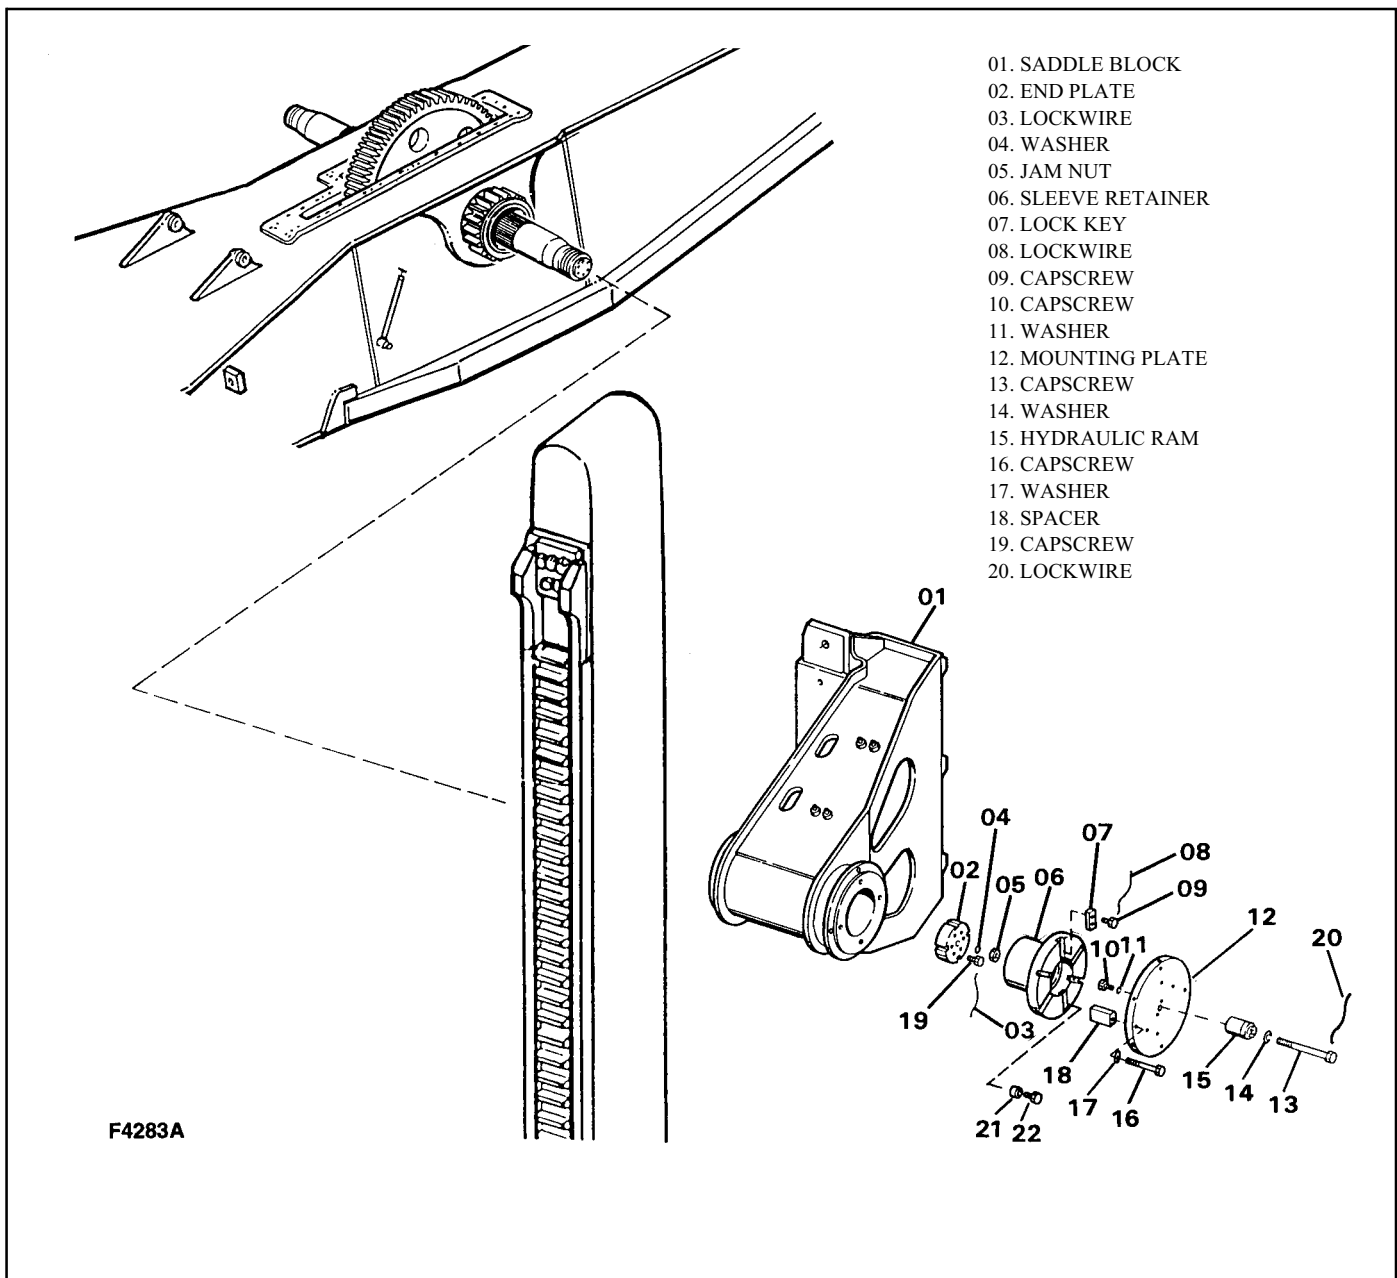

Figure 6-22. Installing Saddle Blocks and Hydraulic Rams
9. Refer to Figure 6-22. Using a suitable lifting device, install the saddle blocks (01) on the shipper shaft. The assembled saddle blocks weigh approximately 10,200 lbs (4626.7 kg).
10. Lubricate and install sleeve retainers (06). Tighten the sleeve retainers until they are seated firmly against the saddle blocks.
11. Install end plates (02) with drilled head capscrews (19). Tighten end plate capscrews (19) to 650 ft-lbs (881 N.m) torque. Secure the capscrews with lockwire.
12. Align the channel in the sleeve retainer (06) with the channel in end plate (02) by rotating the sleeve retainer.
13. Install locking key (07) at each end of the shaft. Torque locking key capscrews (09) to 150 ft-lbs (203 N.m). Secure the capscrews with lockwire (08).